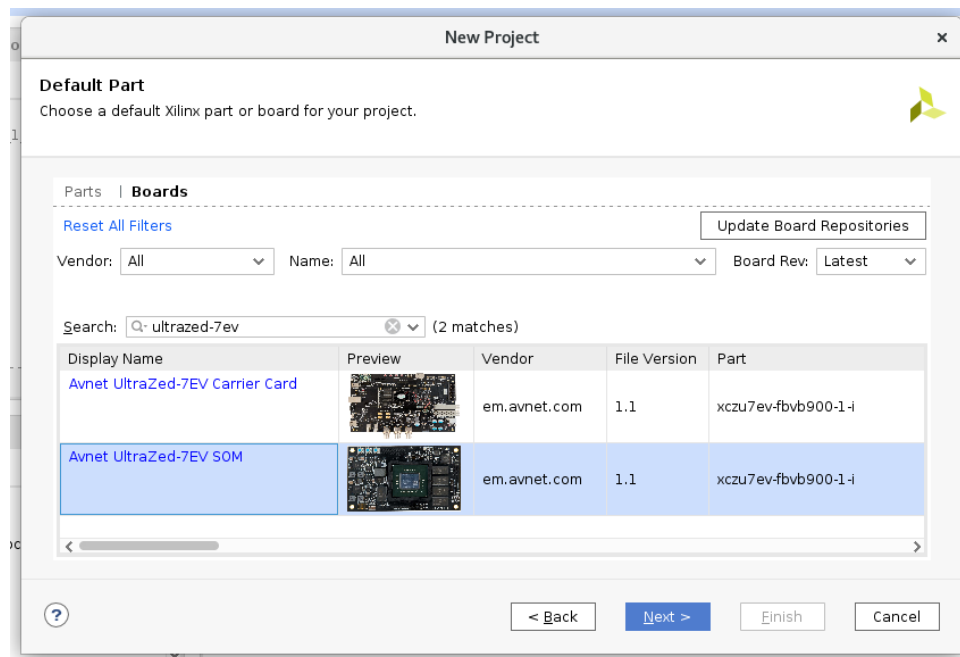

Figure 1
2. Under “Quick Start” click on “Create Project” and set up the project using the defaults without any additional source files (it doesn't matter what the name or location of the project are). When you arrive at the “Default Part” page, select either the “UltraZed-7EV SOM” or “UltraZed-7EV Carrier Card” board as shown in Figure 1, choosing whichever option corresponds with what you are targeting (visit the “Using a Custom Carrier Card” section for more information on which board to use). This way, the UltraZed board files can populate the project constraints using existing board peripherals if necessary. If these boards are not present in the list, you will likely need to install the UltraZed board files into Vivado before proceeding.